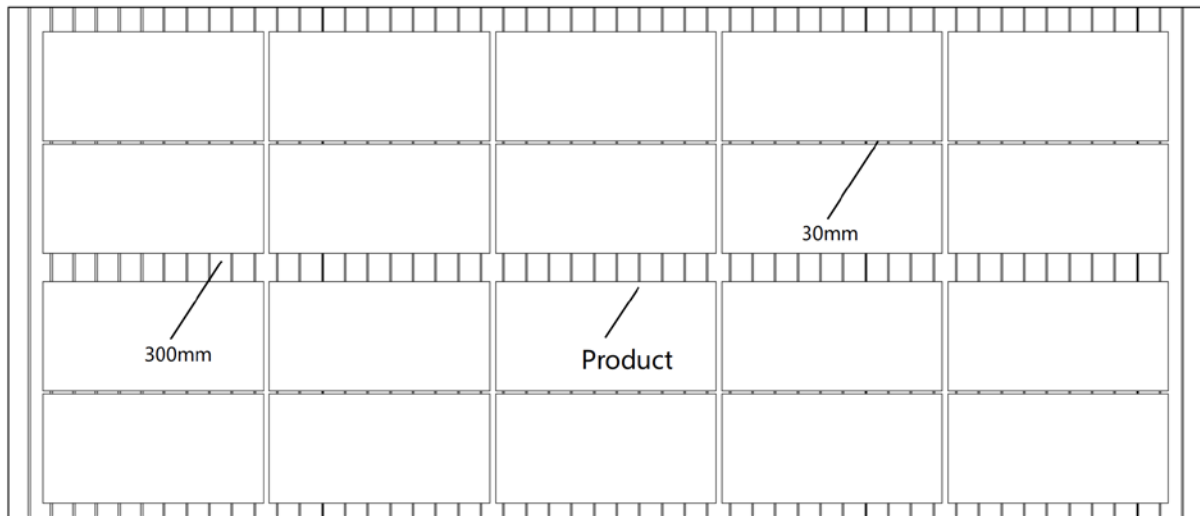

Figure 6
- ⑤ A distance of 30mm( $\pm 5$ mm) should be left between two adjacent products and a maintenance access path of 300mm should be provided between two rows of products. (Figure 6).